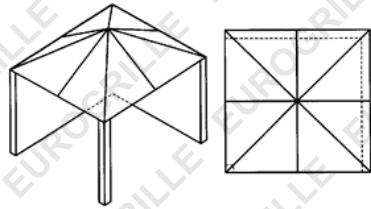

Figure 2: Partial Enclosure with overhead cover and no more than two walls.
- Within a partial enclosure that includes an overhead cover and no more than two walls. See Figures 2 & 3.